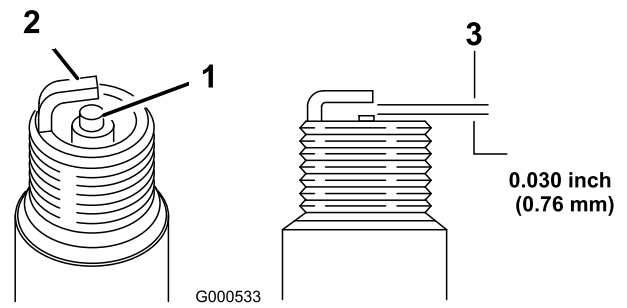

Figure 23
5. Set the gap on the plug to 0.030 inch (0.76 mm) (Figure 23).